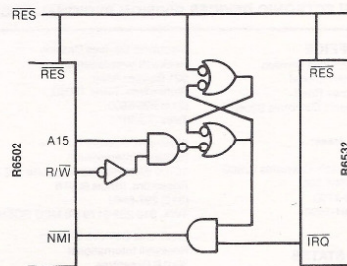

FIGURE 3 — Scheme for Gating to the NMI Input
3. Gate the R6532  $\overline{IRQ}$  output to the R6502 NMI input with a circuit which is enabled by the initialization routine of the processor. Figure 3 shows a possible configuration, with the gate enabled only when the processor does a write operation with A15 high. Note that this scheme essentially allows disabling of the NMI in the R6502.